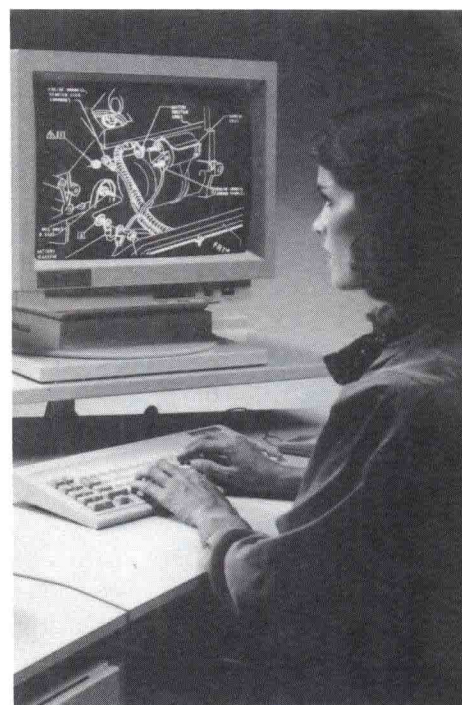

Fig. 1-9. This technical illustrator is labeling the mounting parts for a starter of a car motor. (Datagraphic Systems)
*Technical illustration* involves making two- or three-dimensional (pictorial) drawings for assembly or presentation, Fig. 1-9. A technical illustrator draws the part and may use shading or color to make it look realistic. The drawing could be an exploded view to show how parts fit together. Each part may be identified by name and number. An illustration for presentation usually shows the product assembled, and in full color.